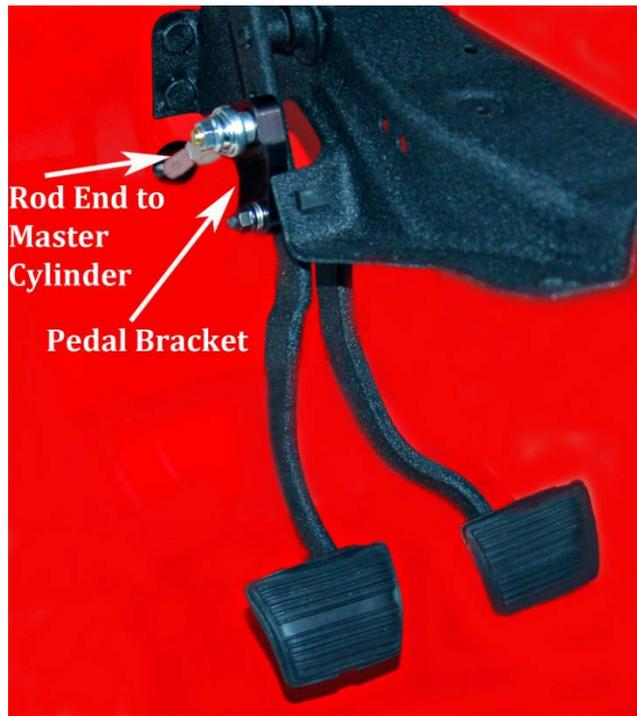

Figure 3
- 4) Install the pedal bracket, with the stud at the top, to the pedal under the dash with supplied 5/16" bolt and nut. Place the rod end on the end of the push rod over the stud with the lock washer and nut. Remove the heavy pedal return spring from the pedal if present. Swing the pedal through its range of motion to be certain there is no interference with any component including wires and or hoses. See Figure 3 & 4.